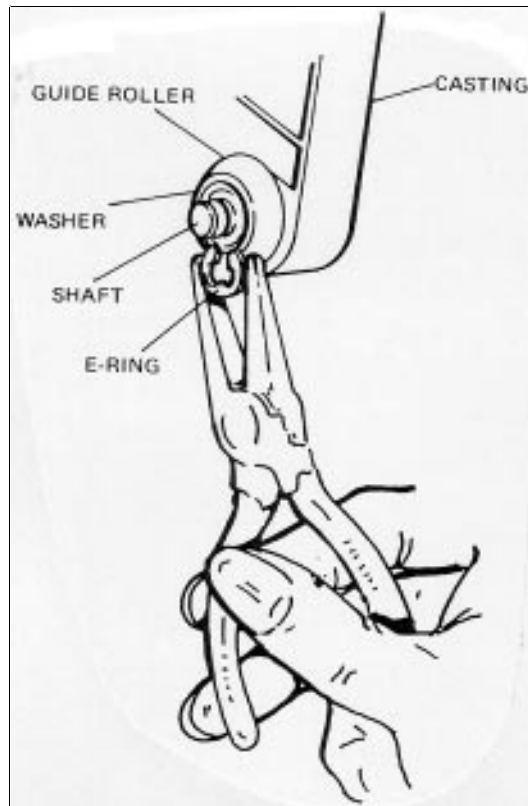

Figure 5-4. Removing the Lower Guide Rollers
- 7) Remove each of the lower guide rollers as follows (figure 5-4):
Secure the assembly by installing the E-ring on the recess of the bolt (figure 5-4).